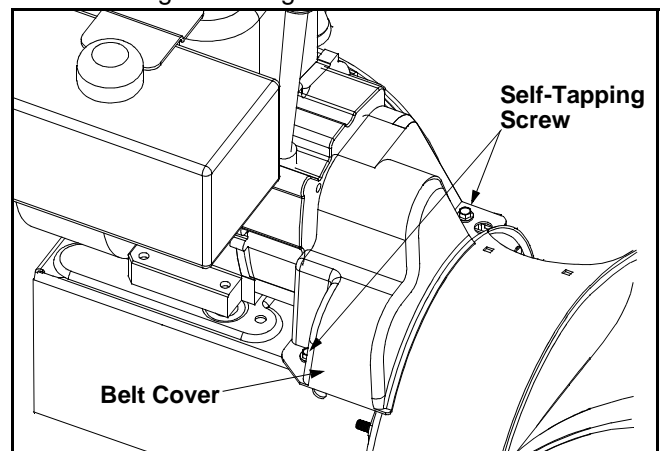

Figure 19
- Remove the plastic belt cover by removing the two self-tapping screws. See Figure 19.